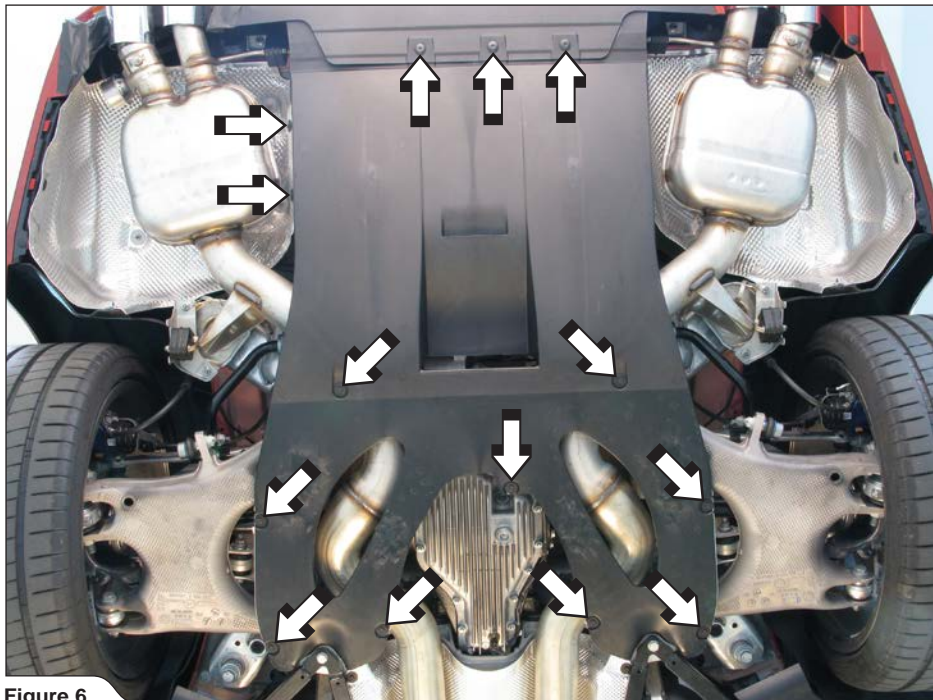

Figure 6
4. Unscrew all marked bolts and carefully remove the underbody protection off the vehicle (**Figure 6**).